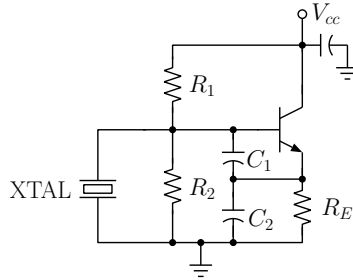

Figure 2.5: Common collector amplifier.
The gain for the oscillator will be provided by a common collector (CC) amplifier (also known as an emitter follower), as shown in Figure 2.5. As the first step in constructing this amplifier, you will need to calculate the appropriate values for the DC bias components  $R_1$ ,  $R_2$ , and  $R_E$ . Unlabeled capacitors are bypass and coupling capacitors, respectively, and should have a very low impedance at the intended frequency of oscillation. In particular, a bypass capacitor (a capacitor used to connect a node to ground for AC signals) should have the lowest possible impedance at the operating frequency. A coupling capacitor (a capacitor used to couple one stage to another) need only have an impedance that is small compared to the load impedance that it couples to. Note that the bypass capacitor shown from  $V_{cc}$  to ground is important, as it is responsible for isolating the oscillator from the wires that connect the circuit to the power supply. Without this capacitor, the wires leading to the power supply and the power supply will all be a part of the circuit at the frequency of oscillation.
The oscillator will be powered by a +12 volt supply, and the output will be taken from the emitter. We will assume that the load impedance (denoted by  $R_L$ , not shown in Figure 2.5) is large compared to  $R_E$ , i.e. we assume  $R_L \gg R_E$  so that the DC and AC load lines are approximately the same. In this case, a reasonable value for the quiescent base voltage is approximately  $V_{cc}/2$ :